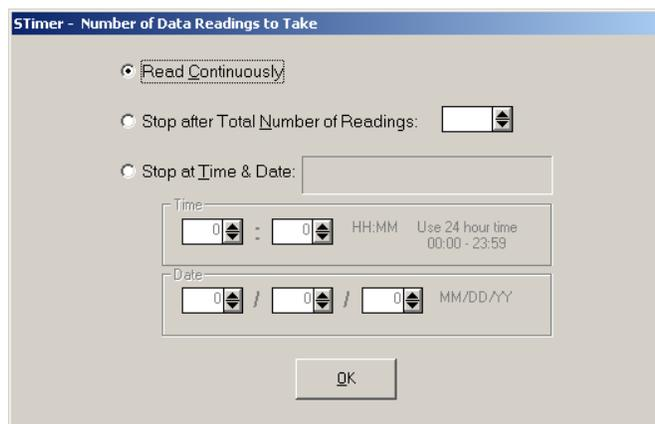

Figure 18 – STimer Data Readings Screen
The Statistical Timer (STimer) utility records readings at regular intervals, continuously or for a fixed period of time, to determine conditions such as thermal growth, the effect of tides or the influence of heavy equipment usage on machine alignment. The **Start** button on the Record screen turns the timer on or off. When the timer is on, data are automatically recorded at the specified interval. Data may also be recorded manually by pressing the spacebar or by clicking the **Record** button on the Status Bar. STimer allows the number of readings to be specified, or the time span over which readings are taken (see Figure 18).
- whether readings should end on a specific date at a specific time (see Figure 18).